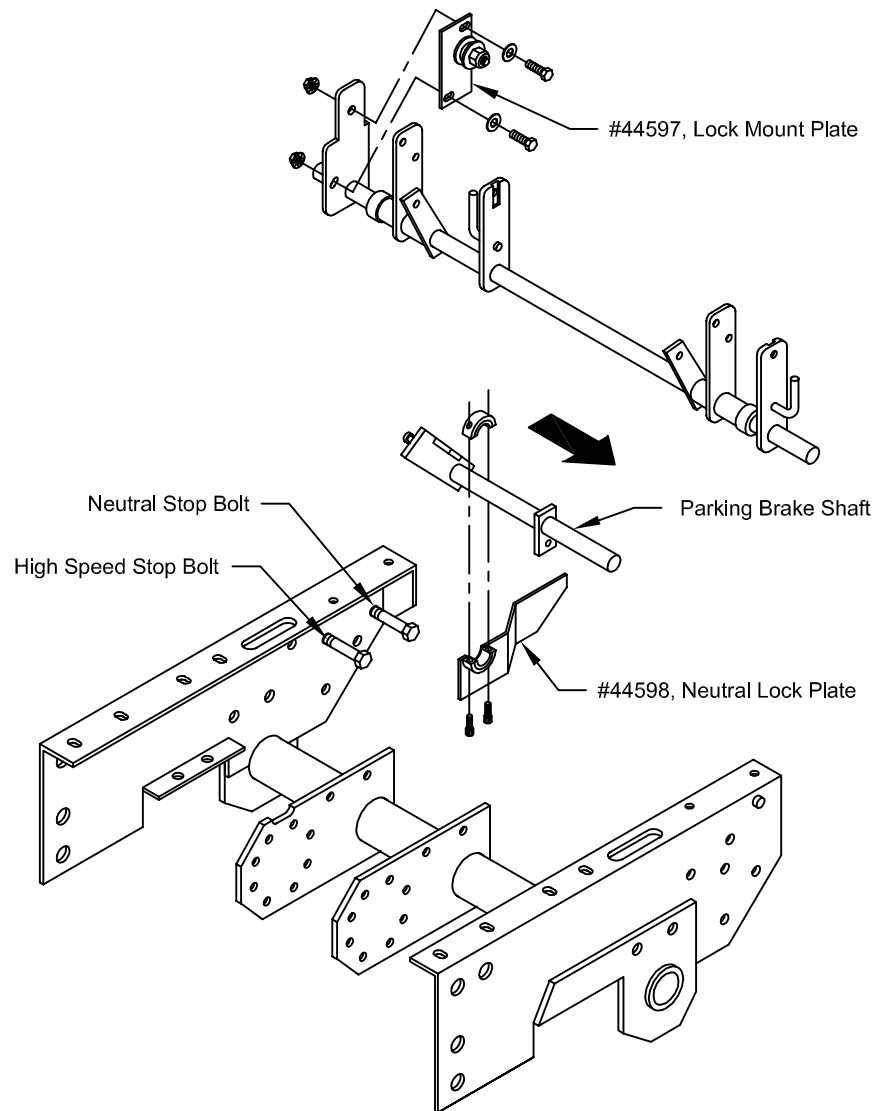

Figure 1
3. Remove the high speed stop bolt and discard (see Figure 1).
5. Loosely install the lock mount plate on the control arm (see Figure 1).
6. Install the neutral lock plate on the parking brake shaft and leave allen screws loose (see Figure 1). The parking brake shaft floats on the bearings at either end and must be pushed to the inside to allow for proper alignment of the lock plate and mount plate. (The shaft will have a tendency to move to the outside when the parking brake is applied.)